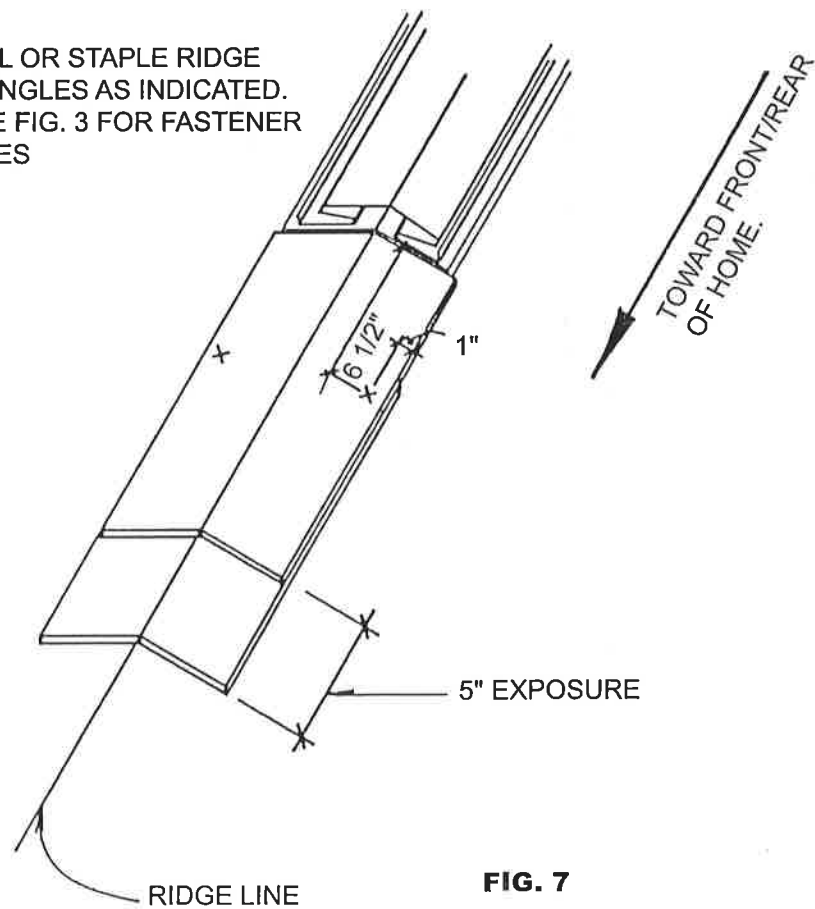

FIG. 7
11. Install ridge shingles to the area of ridge not covered by ridge vent. Start at the vent and work towards roof edges. See figure 7.